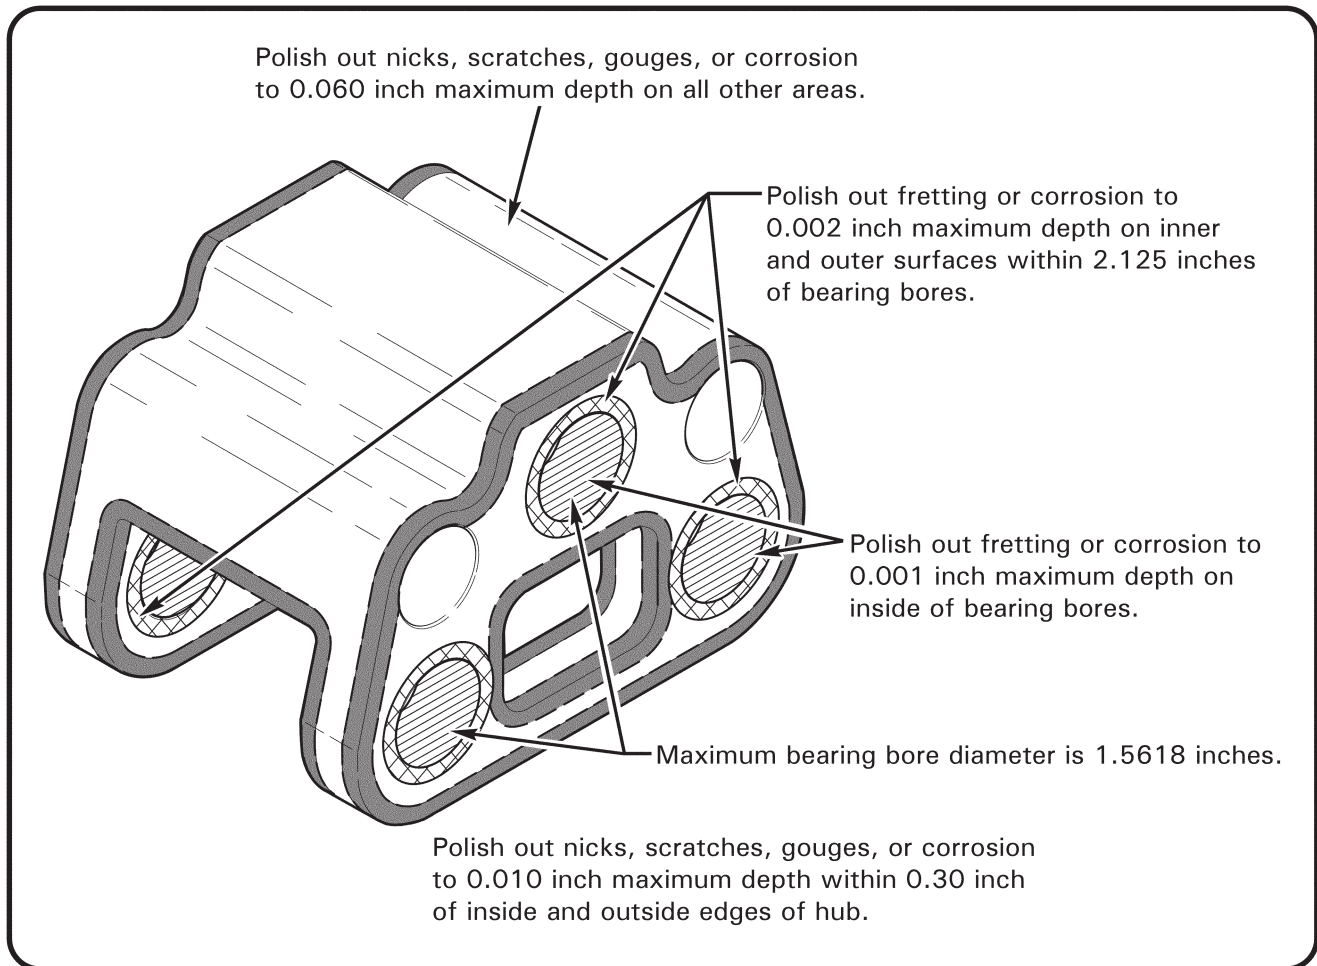

FIGURE 28-6 MAIN ROTOR HUB REPAIR LIMITS
3. Refer to Figure 28-6. If required, polish surfaces using 320-grit or finer aluminum-oxide abrasive paper to 0.25 inch minimum blend radius.